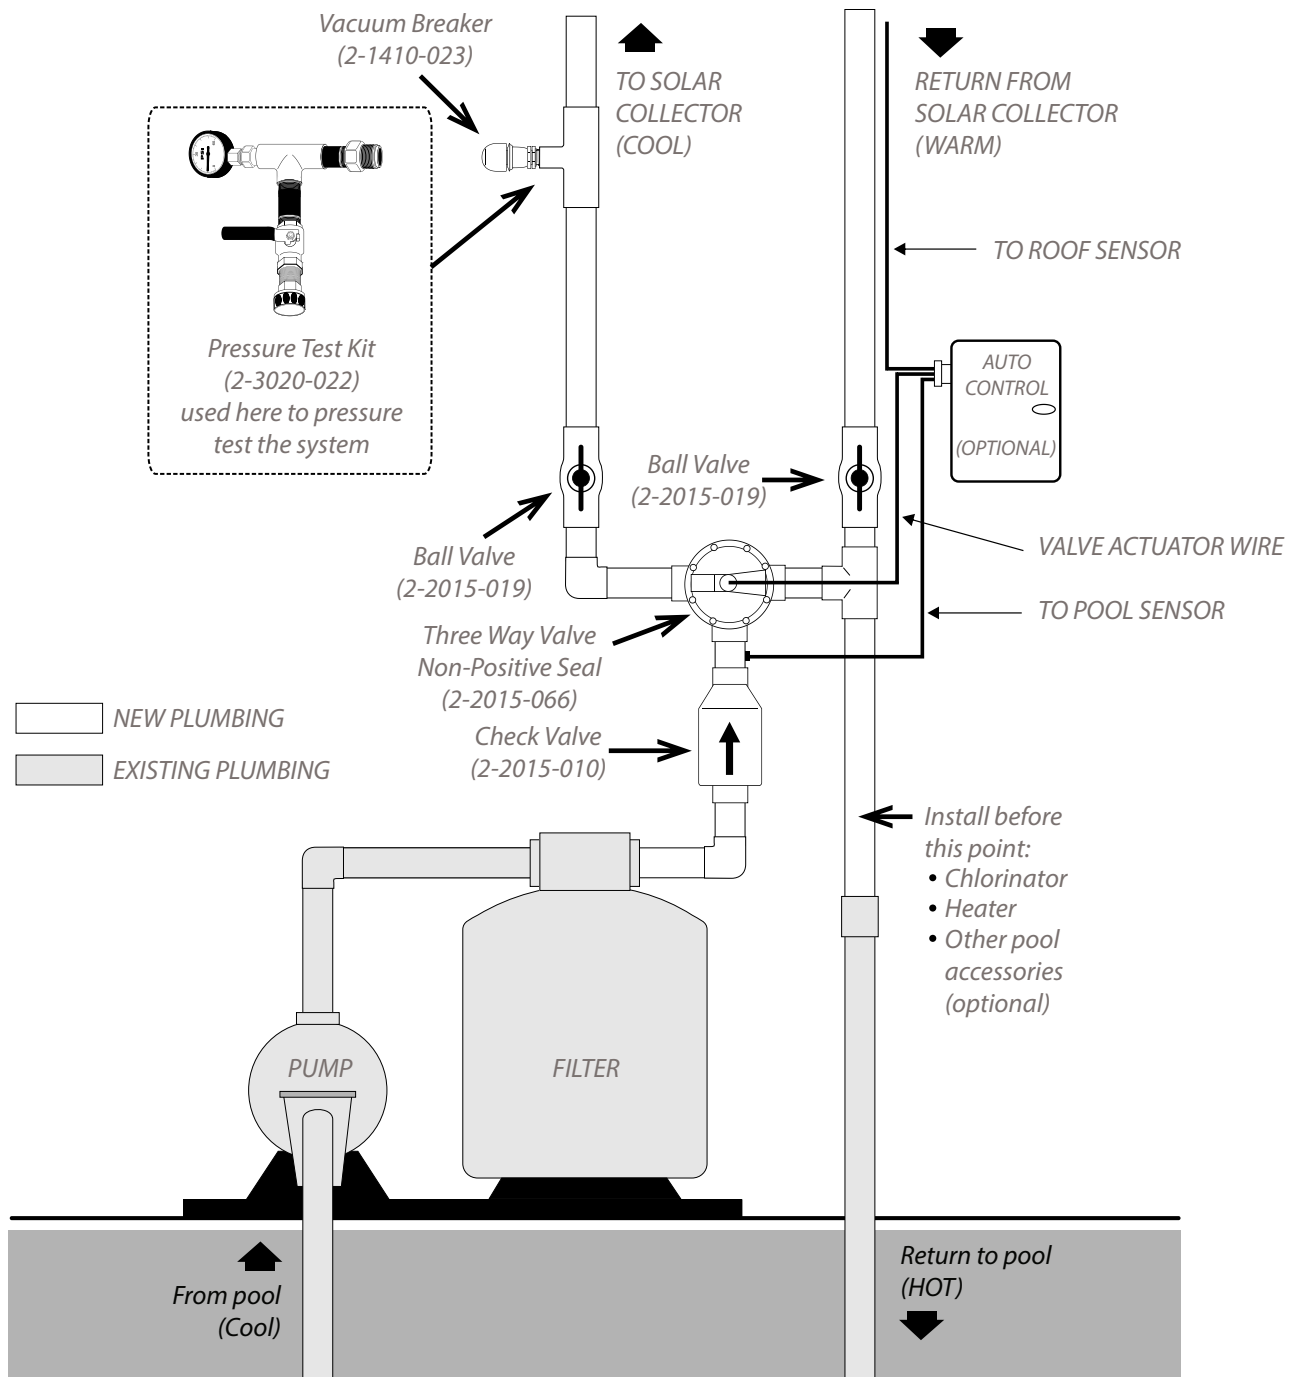

Fig. 13.1
2. Determine where the feed and return pipe will go over the edge of the roof. If possible, this should be perpendicular to the exact points where they will fasten into the existing system or into pipes coming from another location (see Fig. 13.1, page. 24).
Fig. 13.1 on page 24 shows how a typical SunStar solar pool heating system is plumbed into existing pool plumbing. This drawing may not be just like every system you encounter; the feed and return plumbing on a solar system may be reversed, or it may be a different type of filter, or it may have additional equipment such as a chlorinator, pool cleaner, gas heater, etc. It may also have a long run of plumbing from the pool equipment to the solar collectors.
Whether the system is like this or not, Fig. 13.1 will help you understand the flow of water from the pool, through the pump, filter, solar system, and back to the pool. Study the diagram and become familiar with the valves needed to connect the solar collectors to existing plumbing.
- 1. Study the plumbing after the filter and decide where you are going to install the check valve and the PVC tee fitting (see Fig. 13.1). If you have auxiliary equipment, you may need to re-plumb a portion of your existing plumbing so this equipment is located after the solar system as indicated in Fig. 13.1.*
- 2. Cut the pipe after the filter where you have decided to locate the check valve and where your solar return pipe will attach to your existing pool return line. If your pool plumbing is 1-½", and you are running 2" plumbing to your solar system, you should be using 2" valves and piping for all of your new plumbing. Therefore you will need (2) 2"x1-½" reducer bushings to adapt your new 2" fittings to the existing 1-½" pipe.*
- 6. Install the (2-1410-023) vacuum breaker about 4' up the feed line and above the top of the filter using a PVC tee and reducer bushing. Face the tee to the outside as shown in Fig. 13.1. Wrap the threads of the vacuum breaker with Teflon tape and screw it into the ¾" threaded reducer bushing.*